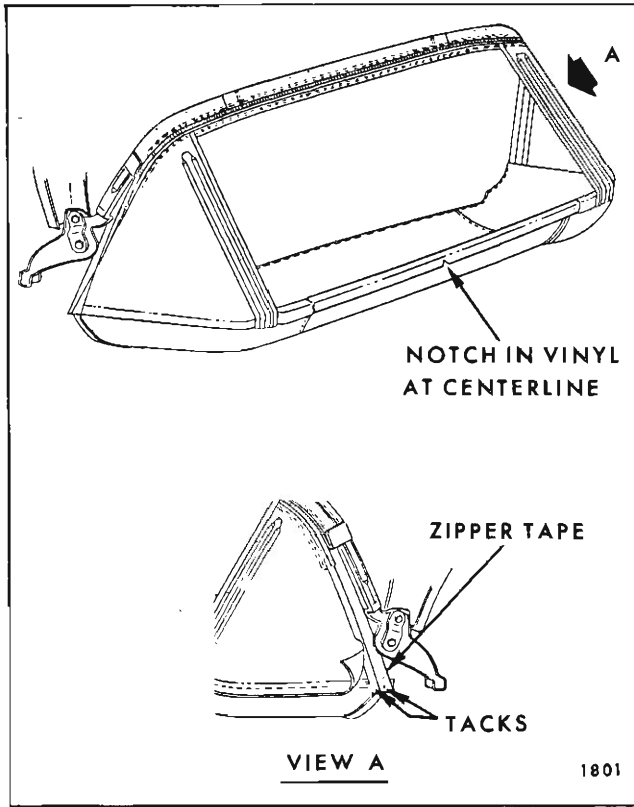

Fig. 5-I-13—Back Curtain Installation
9. Tack curtain to rear and rear quarter trim sticks. On right side, tack zipper tape to forward edge of rear quarter trim stick. (See view "A" in direction of arrow in Fig. 5I13).